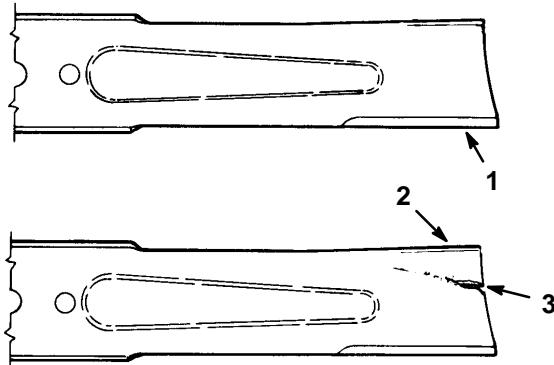

Figure 23
2. Inspect the cutting edges (Fig. 23). If the edges are not sharp or have nicks, remove the blade(s) and sharpen them; refer to Sharpening the Blade(s), page 15.
3. Inspect the blade(s), especially the curved area (Fig. 23). If you notice any damage, wear, or a slot forming in this area (Fig. 23), immediately install a new blade.